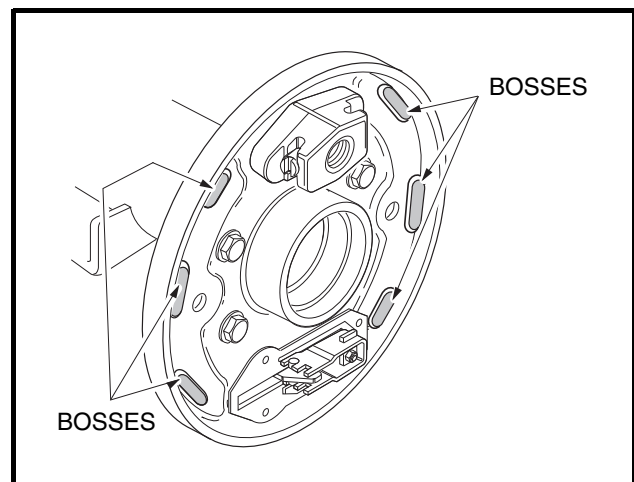

Figure 6-20 Lubricate Raised Bosses
4. Use a small brush to carefully apply a light coat of white lithium NLGI #2 grease (Dow Corning BR2-Plus or equivalent) on each of the six raised bosses on brake backing plate (**Figure 6-20, Page 6-9**). See preceding **WARNING**.